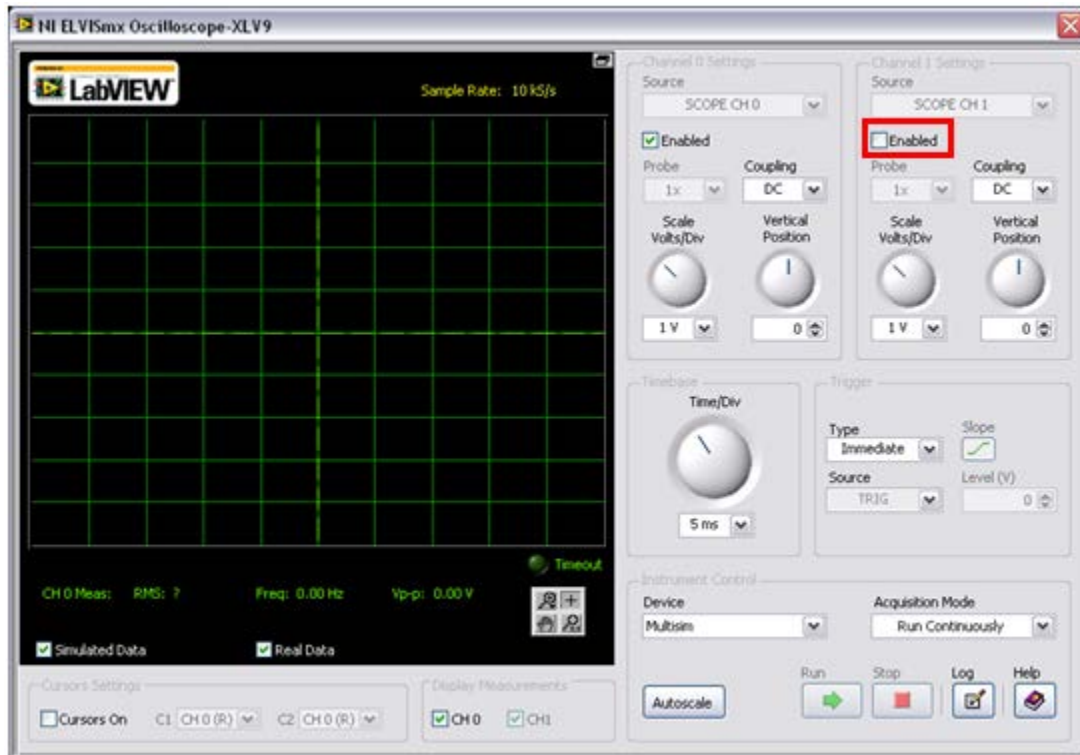

Figure E3-8. ELVISmx Oscilloscope Soft Front Panel
- i. The soft front panel should look similar to Figure E3-8 below. The soft front panel parameters of the oscilloscope can be adjusted on the fly while the schematic is being simulated or during actual hardware testing. Make sure the Channel 1 is enabled by clicking the enabled check box.